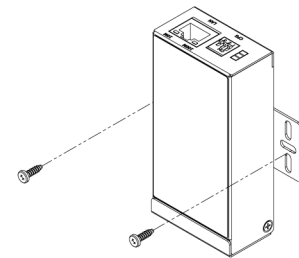
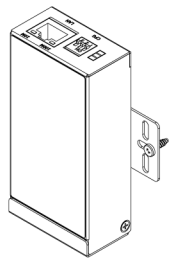

Figure 2
Figure 3
STEP 2: Use the screws to attach the bracket of the Ethernet Extender for wall mounting, as shown in Figure 2 and Figure 3.